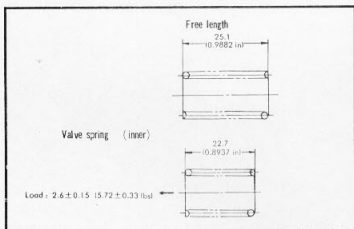

Figure 3-29. Inner valve spring
- (7) Inner valve spring (Fig. 3-29)